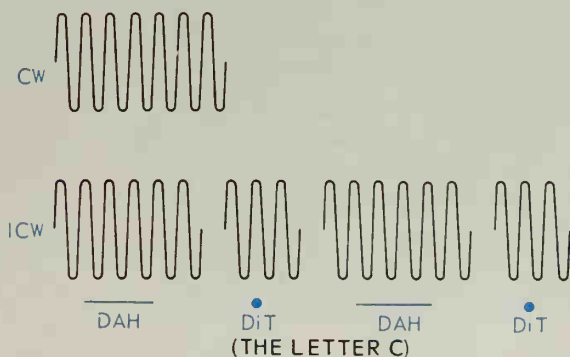

Fig. 17-2. An ICW can conform to the Morse Code for communications.
Oscillators studied in Chapter 16 were designed to produce a **CONTINUOUS WAVE (CW)**. When these oscillators are connected to an antenna system, they will radiate waves into space. If the oscillator is keyed (turned on and off), it is possible to radiate or send out spurts of energy. These spurts of radio energy, when conforming to the **MORSE CODE**, provide one of the earliest and still quite popular methods of sending messages. Fig. 17-2 shows the continuous radio wave, then an **INTERRUPTED CONTINUOUS WAVE (ICW)**.